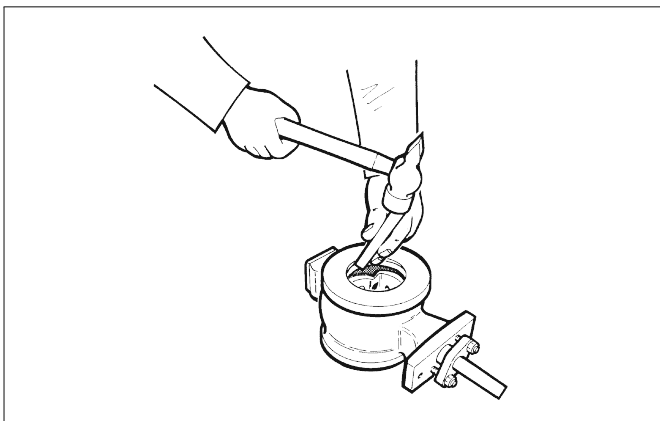

Fig. 13 Knocking off the seat
- ❑ Tap the seat (4) with a soft spindle all around the circumference from the upstream side to make it fall into the body, Fig. 13.